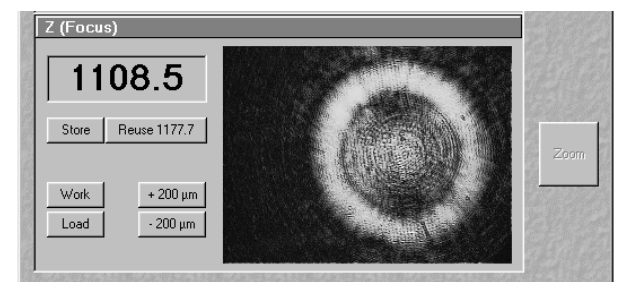

Fig. 4-31 Lower cover slip surface
- Continue cautiously moving upwards. If the camera image looks like (Fig. 4-31), you are close to the lower cover slip surface.